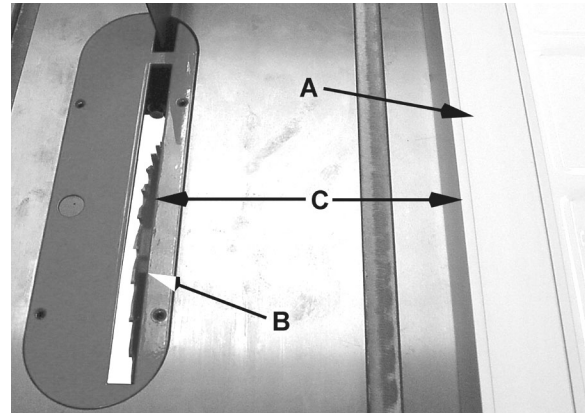

Figure 9-4
The *rip fence* (A, Figure 9-4) should be set for the *width of the cut* (C) by using the scale on the front rail, or by measuring the distance between blade (B) and fence (A). Stand out of line with saw blade and workpiece to avoid sawdust and splinters coming off the blade or a kickback, if one should occur.